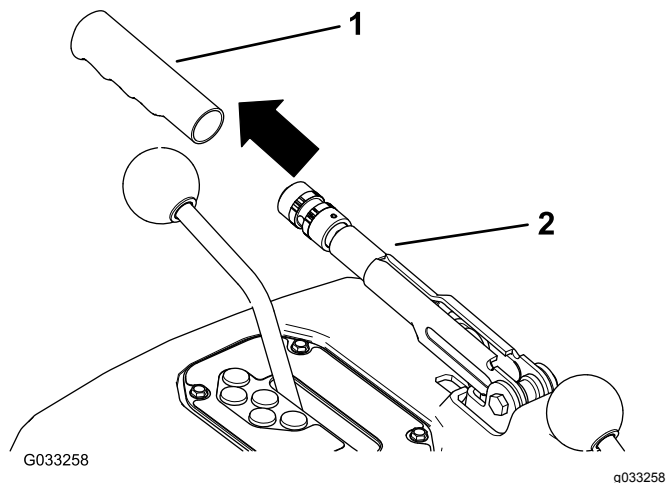

Figure 74
1. Remove the rubber grip from the parking-brake lever (Figure 74).
- Install the rubber grip onto the parking-brake lever (Figure 74).